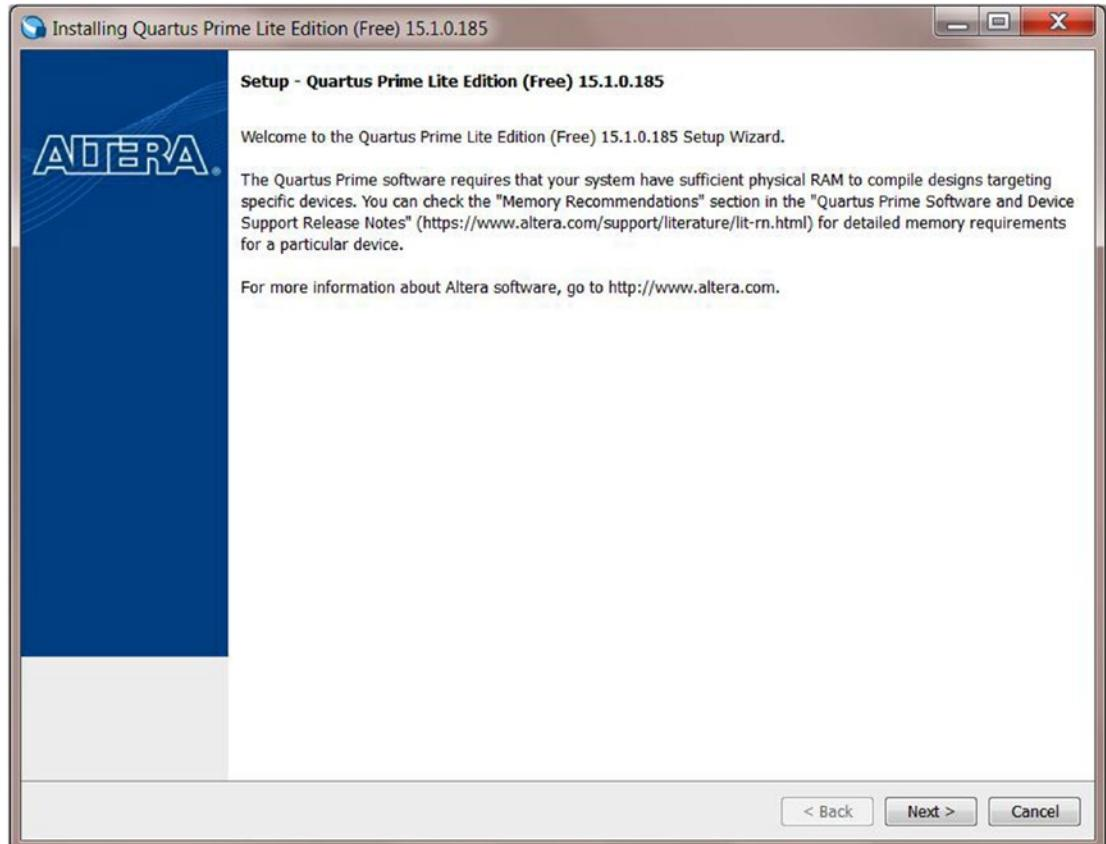

Figure 3-10. Installing Quartus Prime Lite Edition (Free)
1. For the individual files method: if you are using Windows, run the file QuartusLiteSetup-<version>-windows.exe. For the combined file method, you must unzip the .tar file to extract the installation files. Examples of unzipping tools: WinZip, 7-zip, or WinRAR. You need to unzip the files on the same directory and run Setup.bat. Both ways will bring you to the Setup Wizard as in Figure 3-10. Just click **Next**.